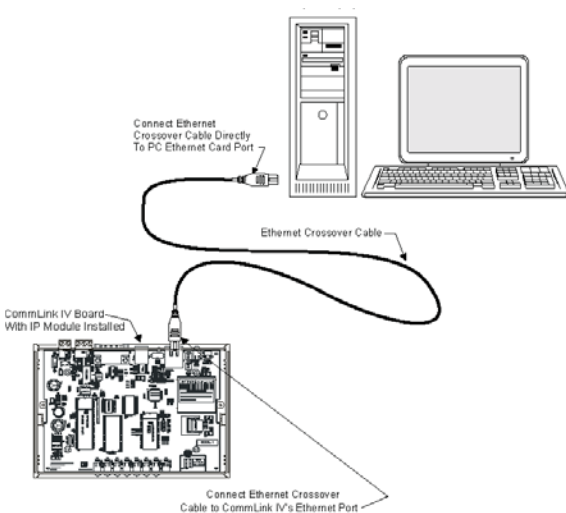

Figure 7: Connecting with Crossover Ethernet Cable (CommLink IV shown)
- Step 5: Connect your CommLink to your PC via Ethernet cable. *See Figures 7 and 8 on page 11.*
- 1.) You can connect the CommLink directly to your PC by using a crossover CAT 5 Ethernet cable (provided) as shown. See *Figure 7* for details.